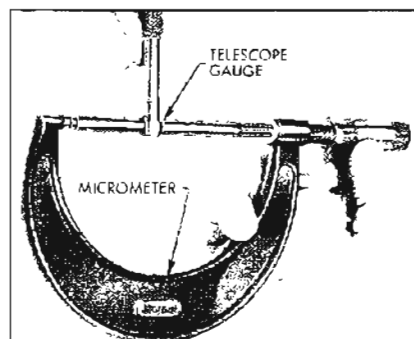

Figure 2-47—Measuring Telescope Gauge
2. Measure the telescope gauge. See Figure 2-47.